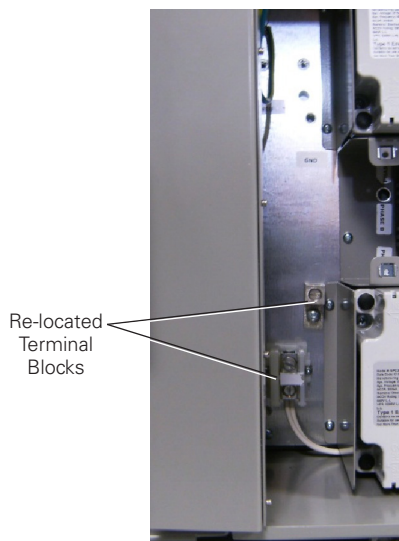

Figure 5. Neutral and Ground Terminal Block re-located for Top Entry Wire Installation
- Unscrew the Neutral and Ground terminal blocks from the enclosure base. Rotate the Ground terminal block 180° and mount the two terminal blocks in the mounting holes located on the bottom left of the unit. (See Figure 5)